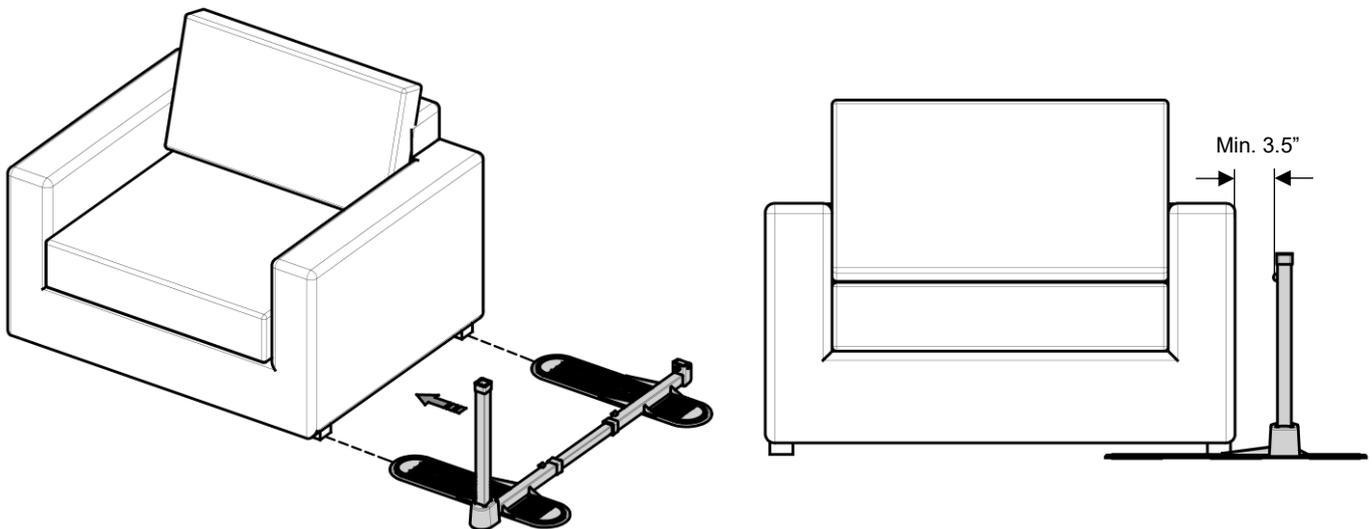

FIGURE 22
22. Place center of furniture feet on pads as shown in *FIGURE 22*. Allow at least 3.5 inch (25mm) of space between uprights and furniture arm. Pay special attention to the full motion of lift chairs and recliners so neither vertical support nor Handle comes into contact with furniture.